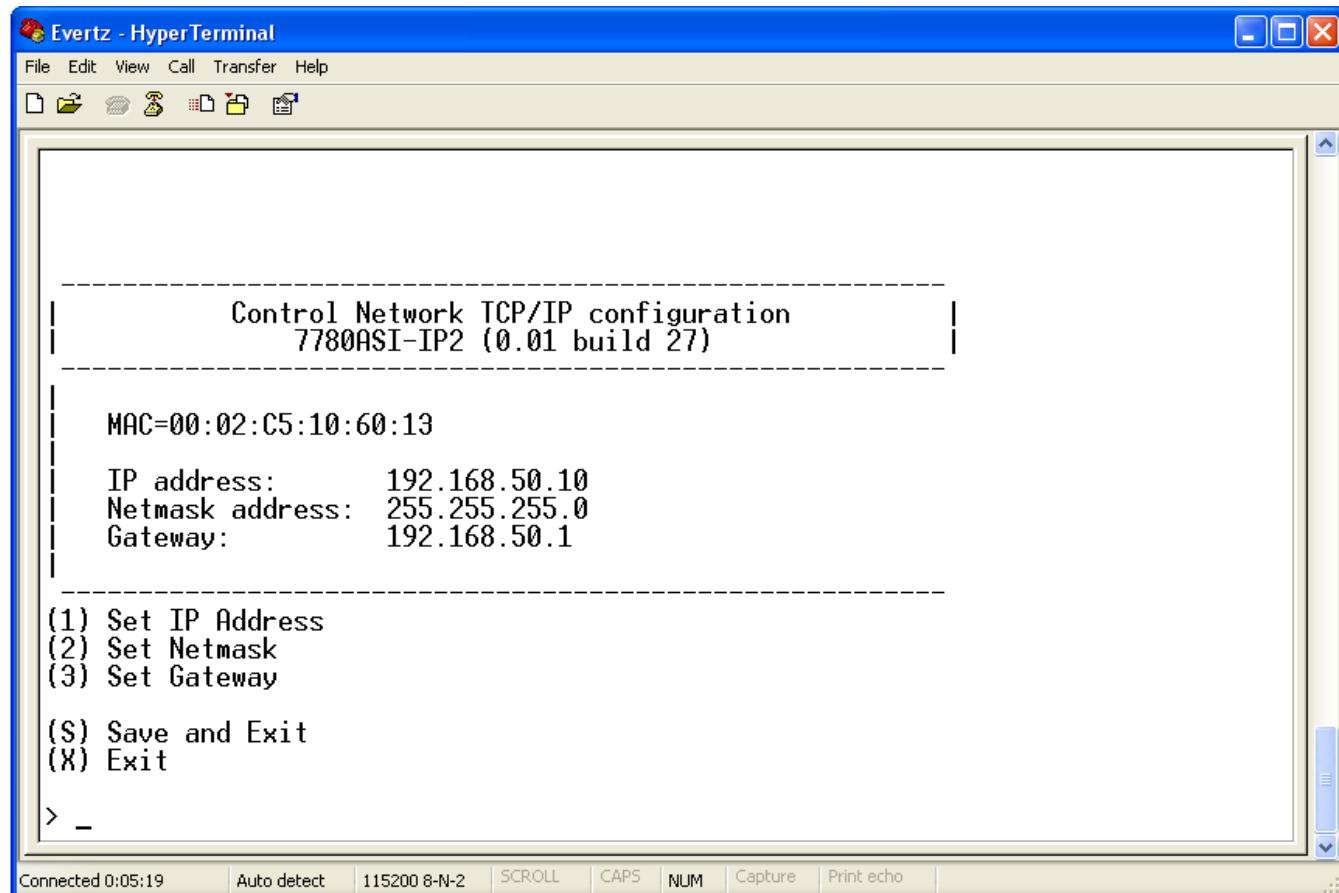

Figure 2-7: 7780ASI-IP2 Network Configuration Sub-Menu
From the terminal session window select option (1) *Control Network Configuration*, the Control Network Configuration menu will be displayed as shown in Figure 2-7.
1. Select option (1) *Set IP Address* and configure the card IP address, ensuring that the IP address is not already in use on the network.
2. Select option (2) *Set Netmask* and configure the correct subnet mask for your network.
3. If required also configure option (3) *Set Gateway*.